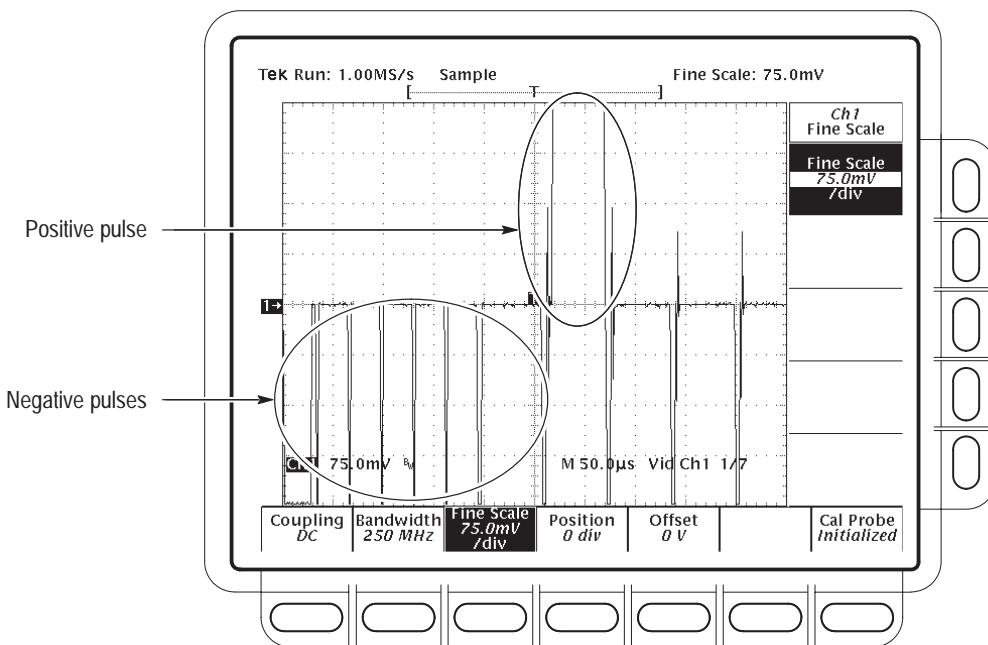

Figure 4-29: Triggered signal range test – 75 mV
- o. CONFIRM that the **TRIG'D** LED stays lighted and that the waveform on screen is stable. That is, it does not move horizontally or vertically. Also, CONFIRM that the waveform on the screen has one positive pulse and a number of negative pulses. See Figure 4-29.